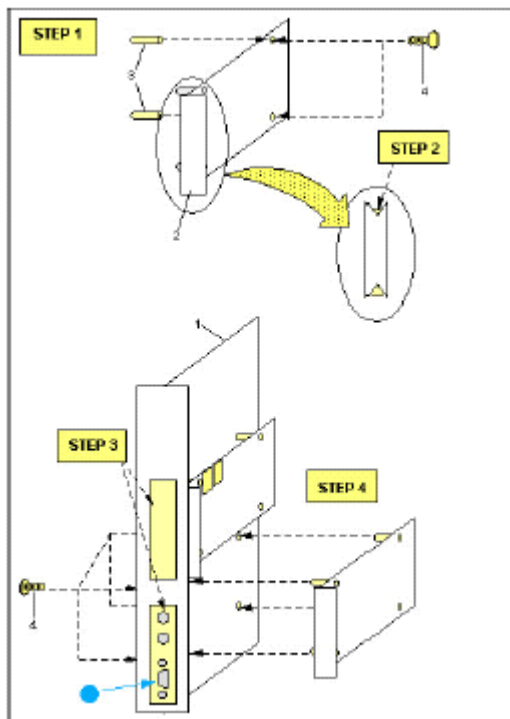

Figure 3 – Unmounting DIP Board From Motorola Board
1. DIP board should already have four standoffs mounted as illustrated in Figure 3 below.
2. On the bottom side of the Motorola Board remove and retain the four (4) screws holding the Daughter DIP board in place.